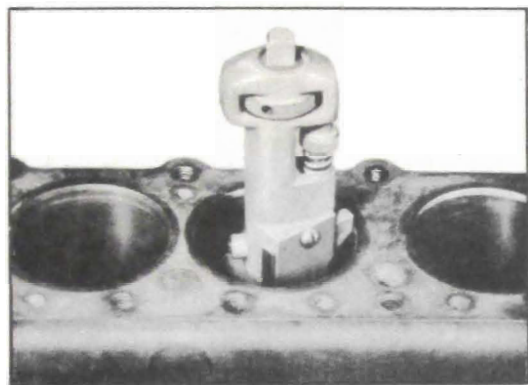

Figure 2-32—Removing Ridge from Cylinder Bore
2. Examine the cylinder bore above the ring travel. If bore is worn so that a shoulder or ridge exists at this point, remove the ridge with a ridge reamer to avoid damaging rings or cracking ring lands in piston during removal. Chamfering at 15 degrees angle will prevent ring damage when pistons are reinstalled. See figure 2-32.